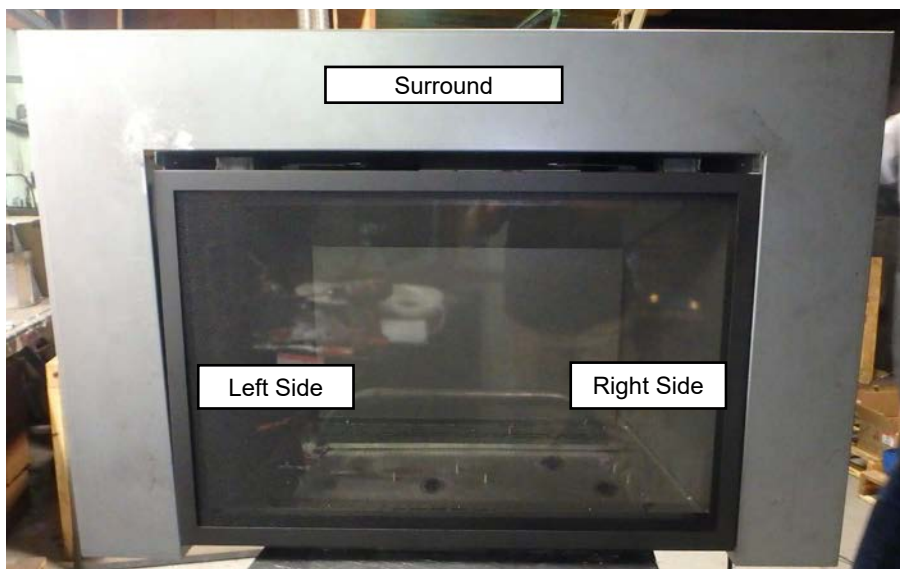

Figure 6.2.01:
*Left and right side references in this manual correspond with the sides identified in **Figure 6.2.01**.
2. Slide the control board forward as shown in **Figure 6.2.01**.